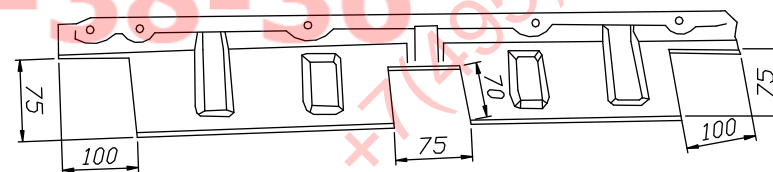

Fig. 3. Cover plate cut out
3. Disassemble bottom cover and cut out fragments according to figure 3.